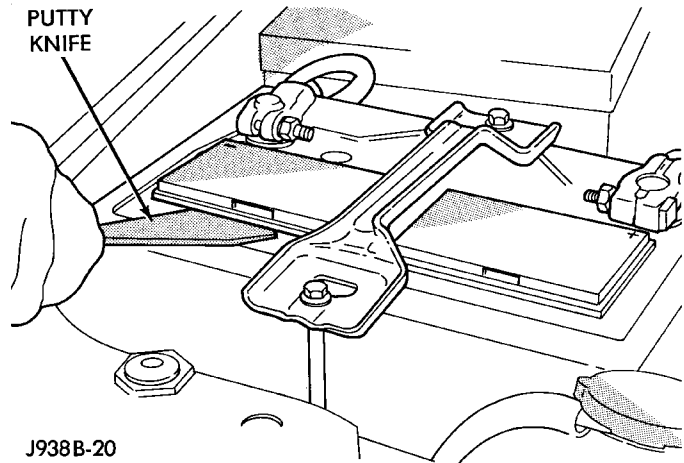

Fig. 18 Removing Cell Caps - Typical
(5) Inspect the battery tray and holddowns for corrosion or damage. Remove any corrosion using a wire brush and a sodium bicarbonate (baking soda) and warm water cleaning solution. Paint any exposed bare metal and replace any damaged parts.
(6) Slide the thermoguard off of the battery case. Inspect the battery case for cracks or other damage that could result in electrolyte leaks. Also, check the battery terminal posts for looseness. Batteries with damaged cases or loose posts must be replaced.
(7) Check the electrolyte level in the battery. Use a putty knife or another suitable wide flat-bladed tool to pry the cell caps off (Fig. 18). Do not use a screwdriver. Add distilled water to each cell until the liquid reaches the bottom of the vent well. **DO NOT OVERFILL.**
(8) Inspect the battery built-in test indicator sight glass for an indication of the battery condition. If the